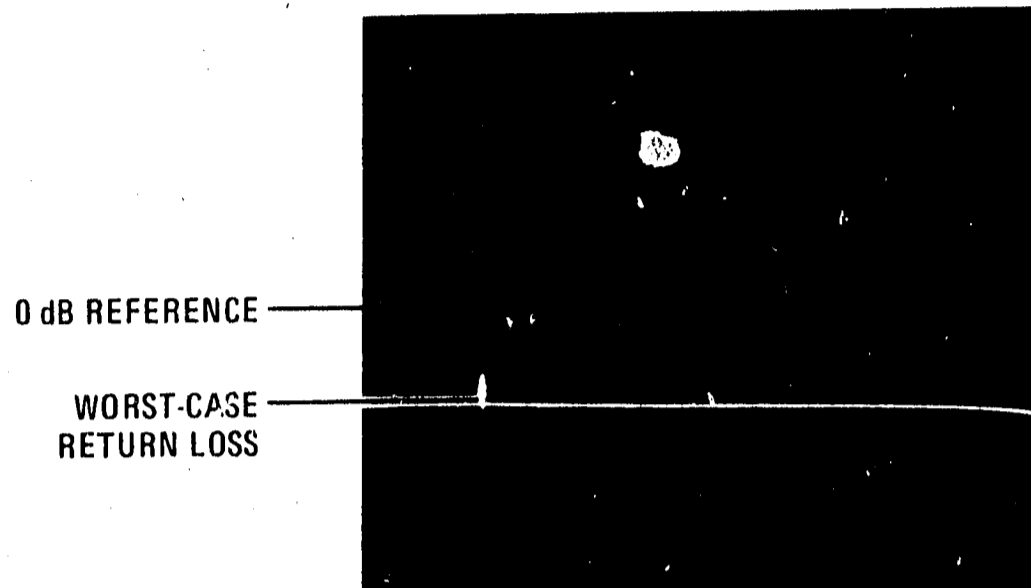

Figure 4-14. Port Return Loss (2 – 100 MHz)
- (1) Remove short and connect 8503A port R to Directional Bridge LOAD port with all other 8503A ports terminated.
- (2) Move 8505A Frequency Control MARKER 1 to worst-case Return Loss between 2 and 100 MHz as indicated on CRT (the point closest to calibration line as shown in Figure 4-14).